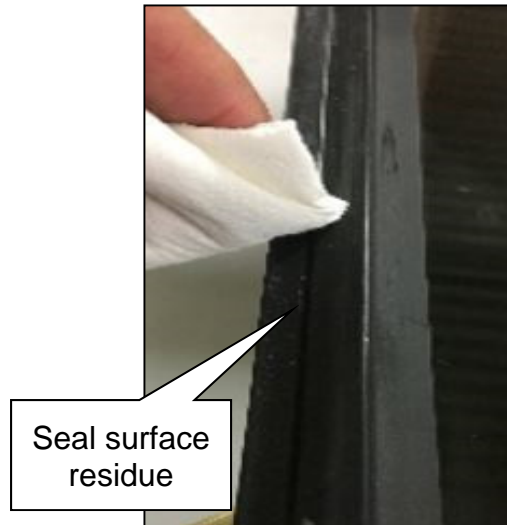

Figure 10
6. Wipe off any remaining residue on the seal surface with isopropyl alcohol and a clean cloth (Figure 10).